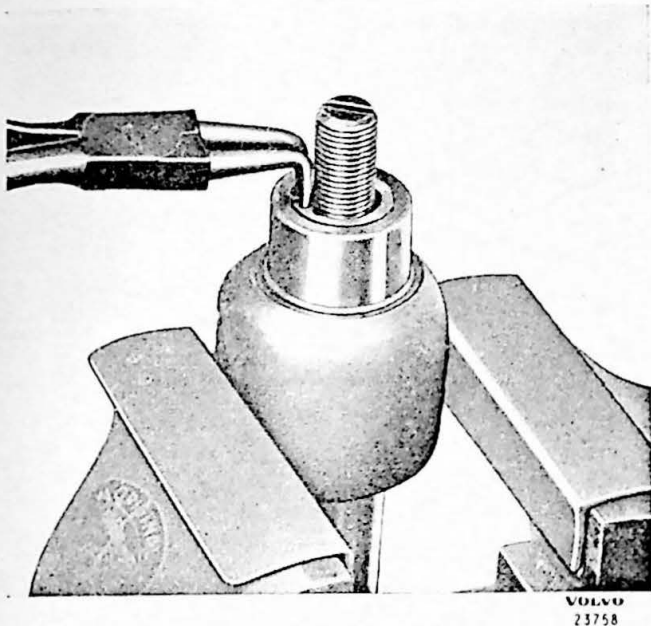

Fig. 6-22. Removing the adjusting screw
3. Remove the bolts and end cover (17). Preserve the adjusting shims (20).
4. Strike the steering shaft (10) carefully so that the outer race of the lower bearing comes out of the housing. Remove the steering shaft (10) with cam and bearings.
5. Slacken the locknut (3) and unscrew the adjusting screw (2) from the cover. The adjusting screw can be removed from the pitman arm shaft when the locking ring has been removed, see Fig. 6-22.